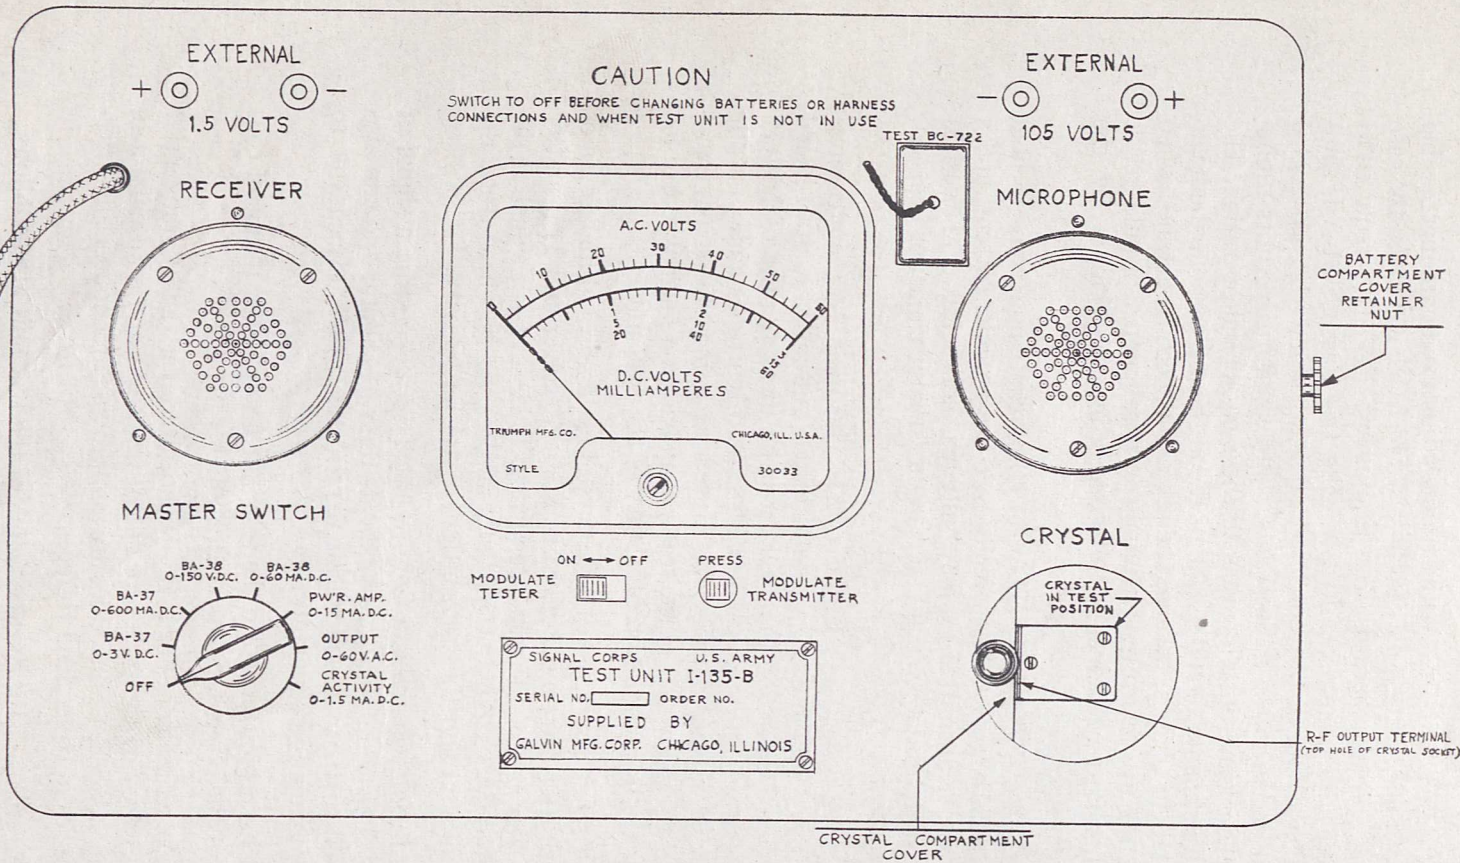

FIG. 13. TEST UNIT I-135-B
d. Test Unit I-135-B.—See Fig. 13. This unit is a multi-range voltmeter and milliammeter, a crystal tester, and an r-f and a-f signal source. Test Unit I-135-B is used for the measurement of battery voltage, battery current, r-f amplifier plate current, audio output voltage, and crystal activity. It is used as a modulated r-f signal source for the alignment of the receiver and as an a-f signal source for determining the modulation capability of the transmitter.